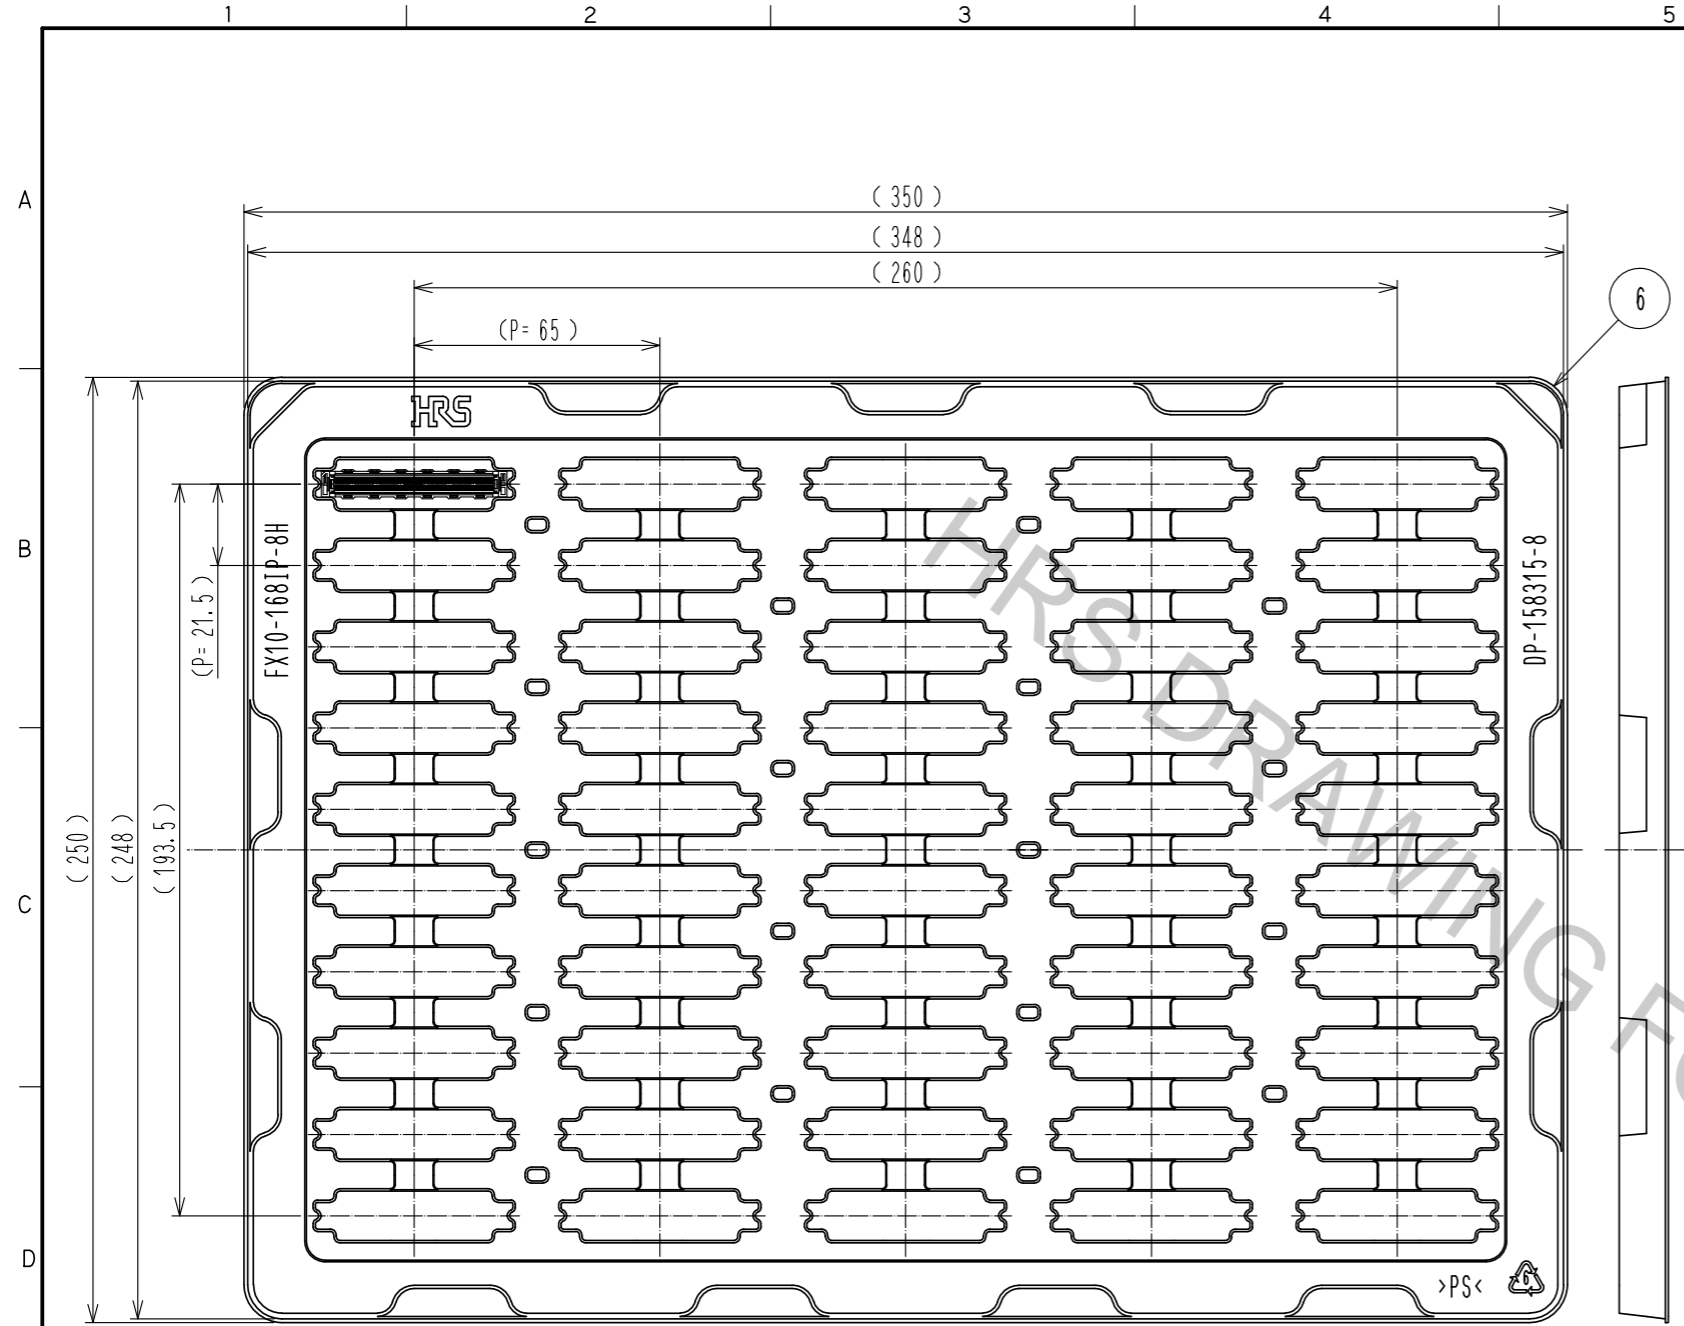

Fig.3 Drawing for packing (1:2) $\triangleleft 6$
- ◀ 6 50pcs of this product are packed in soft tray. See Fig.3 for details.